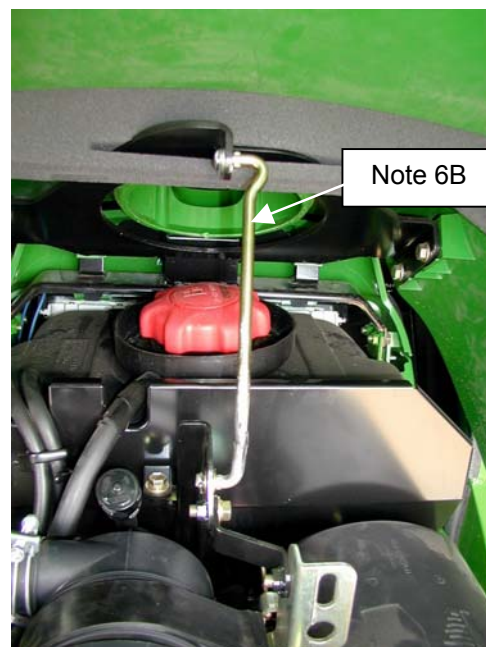

Figure 6B
- B. The 4110 hood also sets back further towards the cab and therefore the hood will not open as far as the other models. Install the shorter hood rod #7-15714 to prevent the hood from contacting the cab. See Figure 6B.